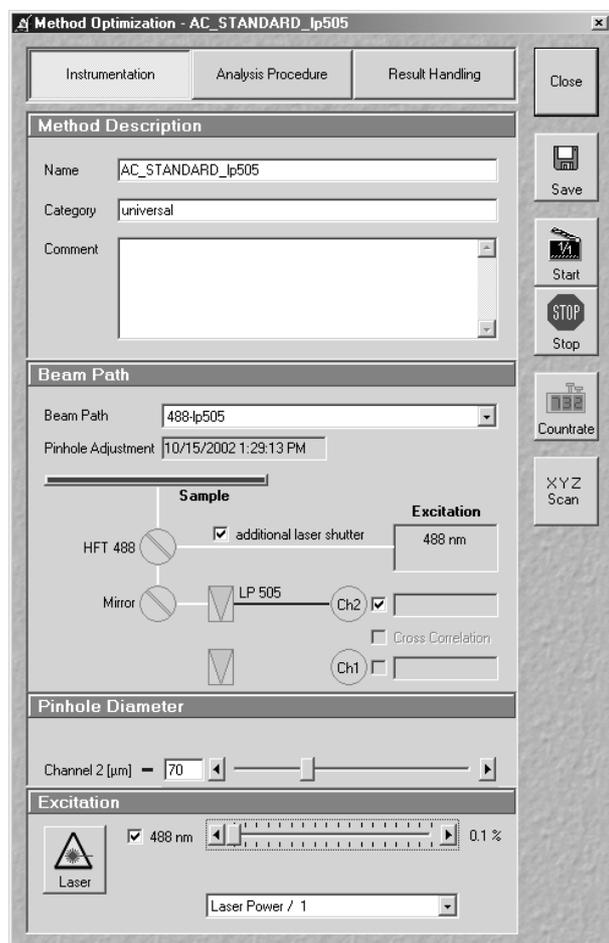

Fig. 5-179 Method Optimization ... window (Instrumentation subwindow)
- Click on the **Instrumentation** button on top of the **Method Optimization ...** window (Fig. 5-179).